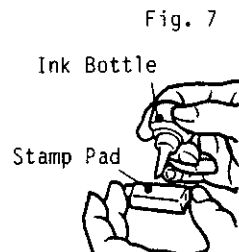

Fig. 7
4. Apply ink to the replenishment pad at the back of the stamp unit. The amount of refilling should be adjusted according to the density of the printed message. (The supplied ink bottle contains 5cc of ink.) (Fig.7)